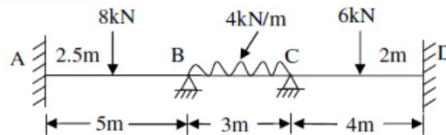

Figure: 3
4. A continuous beam ABCD 12 m long is fixed at A and D, and is loaded as shown in figure 3. Analyze the beam completely if the following moments take place simultaneously a) the end A yields, turning through $1/250$ radians in a clock-wise direction b) end B sinks 30 mm in downward direction, c) end C sinks 20 mm in downward direction. The beam has constant $I=33.20 \times 10^5 \text{ mm}^4$ and $E=2 \times 10^5 \text{ N/mm}^2$. Use slope-deflection method. [5+5+5]